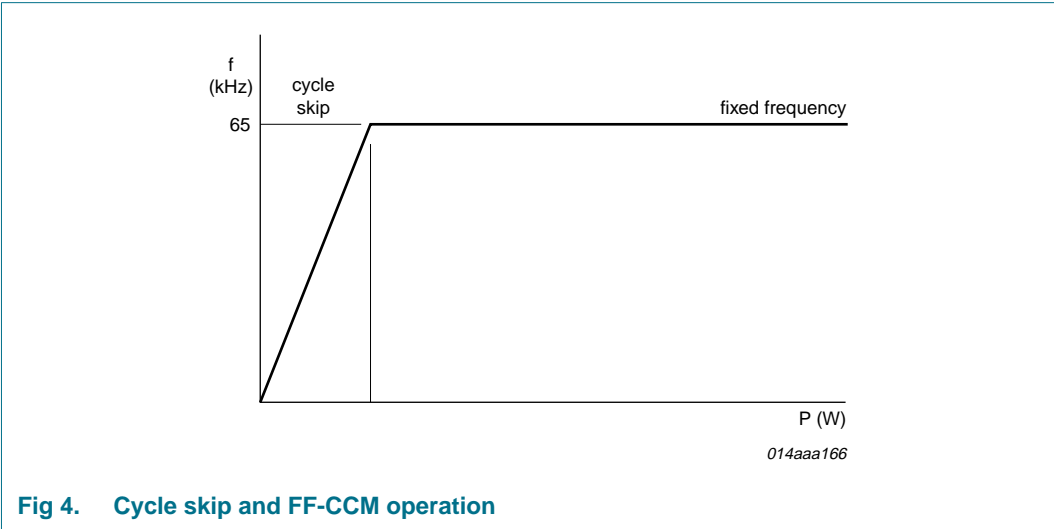

Fig 4. Cycle skip and FF-CCM operation
The TEA1530(A) can operate in multi modes; see Figure 4.